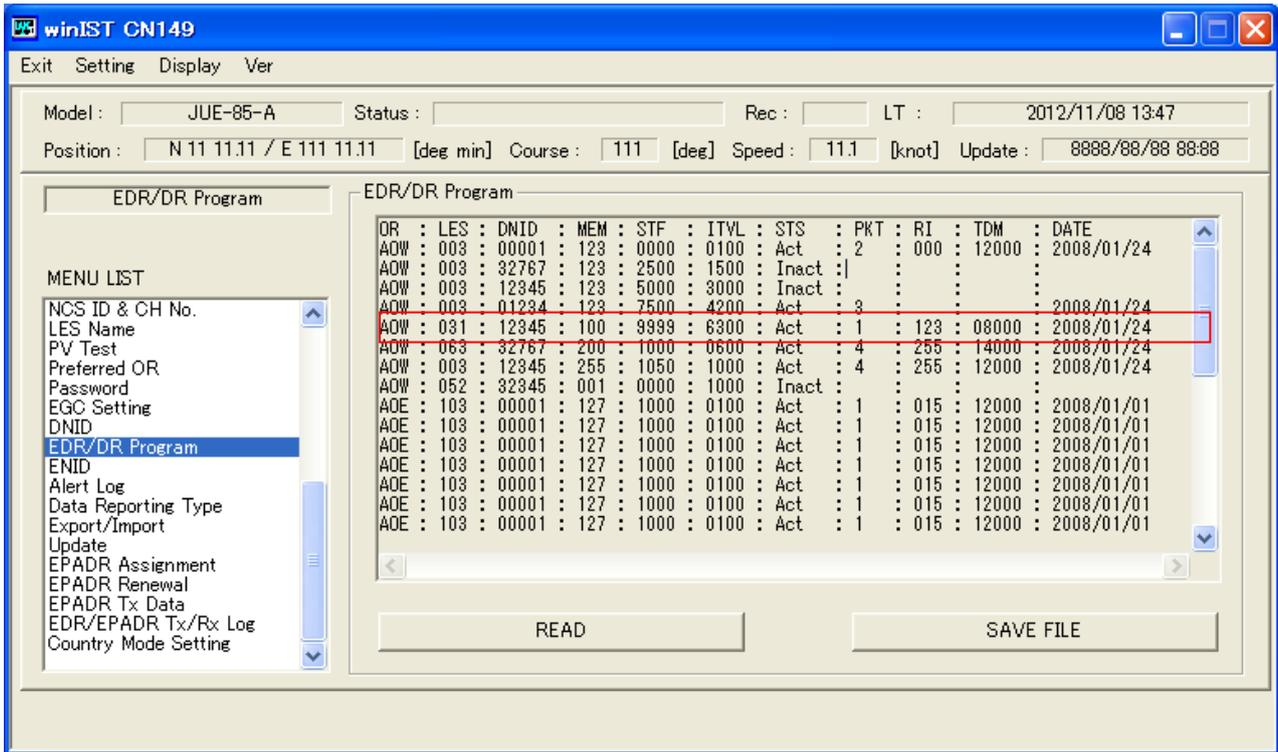

Fig. 4-28b Successfully obtaining program information screen
Note 2): When the program becomes active by the initiate command in Individual Polling, below listed parameters are displayed as blank (the framed program in Fig.4-28b.)
- 4) Press SAVE FILE in "Fig. 4-28b Successfully obtaining program information screen" after program information is obtained.